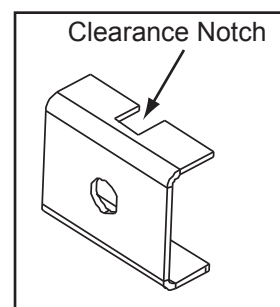

Figure 43.3
9. Each clip has a clearance notch to allow room for the cast on the insert. Place the clip so the notch is facing the outer edges of the surrounds. **Figure 43.3.**